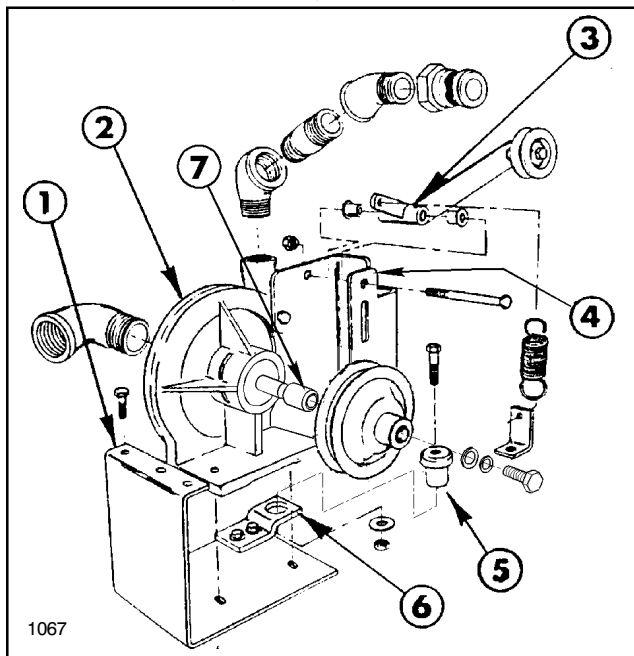

FIG. 1
1. Slide the Pulley Spacer on the Pump Shaft. Install the square key into the centrifugal pump shaft key slot. Place the pump pulley on the pump shaft and secure to the shaft using 5/16" x 3/4" hex hd. cap screw, 5/16 I.D. 10 GA. flat washer, and lockwasher (FIG. 1).
2. Attach the idler pivot bracket to the pump by removing the two pump housing bolts and replacing with (2) 3/8" x 1" hex hd. cap screws. (See FIG. 1)
4. Mount the small inside idler pulley on the long arm of the idler pivot using the 3/8" x 2 3/4" hex hd cap screw, 7/8" spacer, and locknut. **Shim as required between Idler Pivot Ass'y and Inside Idler Pulley with the (3) 3/8" flat washer to align with Pump Pulley.** Attach the tension spring to the short arm of the idler pivot assembly (FIG. 1).
5. Apply sealer and install the 90 degree x 1 1/4" street elbow into the suction port of the pump. Apply sealer and install the 1" x 3" nipple, (2) 45 degree x 1" elbows, and quick adapter into the discharge port of the pump (FIG. 1).
6. Install the rubber mount into the tab mount and loose fit the tab mount to the pump mounting bracket using the (2) 3/8" x 1" hex hd cap screws, flat washers, and locknuts (FIG. 1).
7. Attach the pump mount bracket assembly to the left side of the vehicle frame using the (3) 5/16" x 1" hex hd cap screws, lockwashers, and hex nuts (FIG. 3). Next, attach the tab mount to the crossmember using the 3/8" x 1 1/2" hex hd cap screw, 3/8" I.D. 10 GA. flat washer, and locknut. See FIG. 1. Tighten all fasteners securely.
9. Mount the pump and the spring tab to the pump mount bracket using the (2) 3/8" x 1 1/2" hex hd cap screws, flat washers, and locknuts. Attach the spring to the spring tab located at the base of the pump (FIG 1).